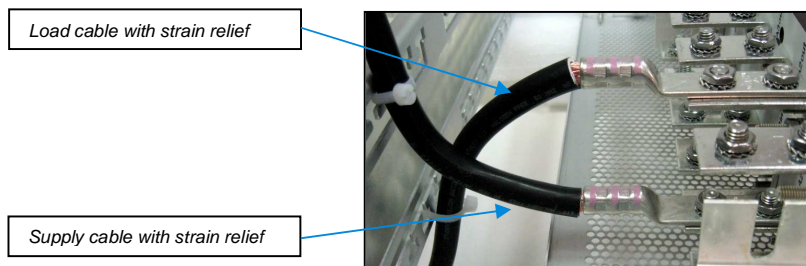

Fig. 5 – Load and Supply Cables
- Tie cables to the cable strain relief on the rear wall of the unit (see fig. 5).